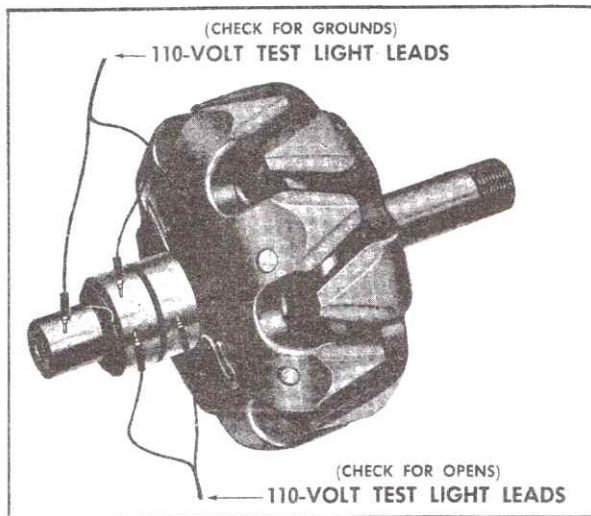

Fig. 6-42 Rotor Checking
1. Test rotor for grounds or opens with the aid of 110-Volt Test Lamp, Fig. 6-42.